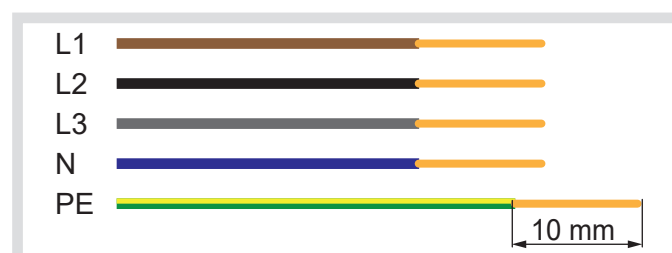

Figure 27: Stripping length
- Cut conductors L1, L2, L3, N and (leave PE 8 mm longer) to length and strip 10 mm (Figure 27).